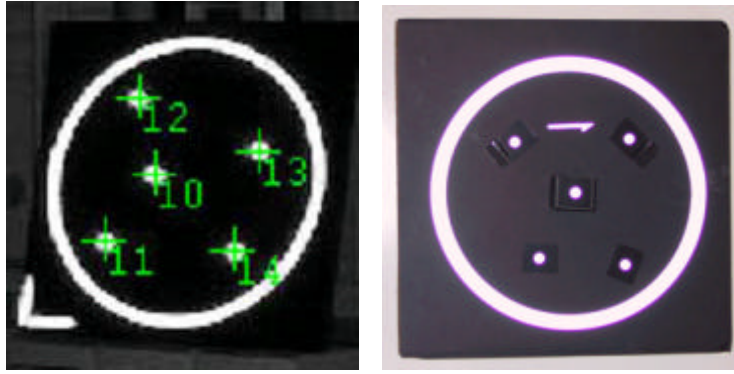

Figure 3.7: Representative EO devices.
The most important information to add in the EO Device Properties box are the EO Device name and the calibrated coordinates of the points (usually 5) on the EO device. To add point information, starting with the central point and working clockwise (see also Fig. 3.7), right-click in the points list box and select *add point*. Values can then be entered as shown in Fig. 24. As the list of points is built, it can
An Exterior Orientation (EO) device is an object that facilitates determination of sensor exterior orientation (either manually or automatically) when no coordinate data is available for the target field. A typical device has a minimum of five well-distributed targets with known coordinates (Figure 3.7). The standard approach would be to measure a minimum of images (at least three) which see all or most of the target array, including the EO device. After these images are measured, the bundle adjustment yields coordinates for all targets (see Chapter 5). This process can be performed automatically if an appropriate EO device is employed. For automatic EO device detection and measurement, *Australis* currently requires an EO device design as indicated by the left-hand image in Figure 3.7. The *Australis* EOD requires that all points are located within a bounding ‘ring’, but this figure can be any shape. A circle, rectangle, square or triangle are all acceptable.